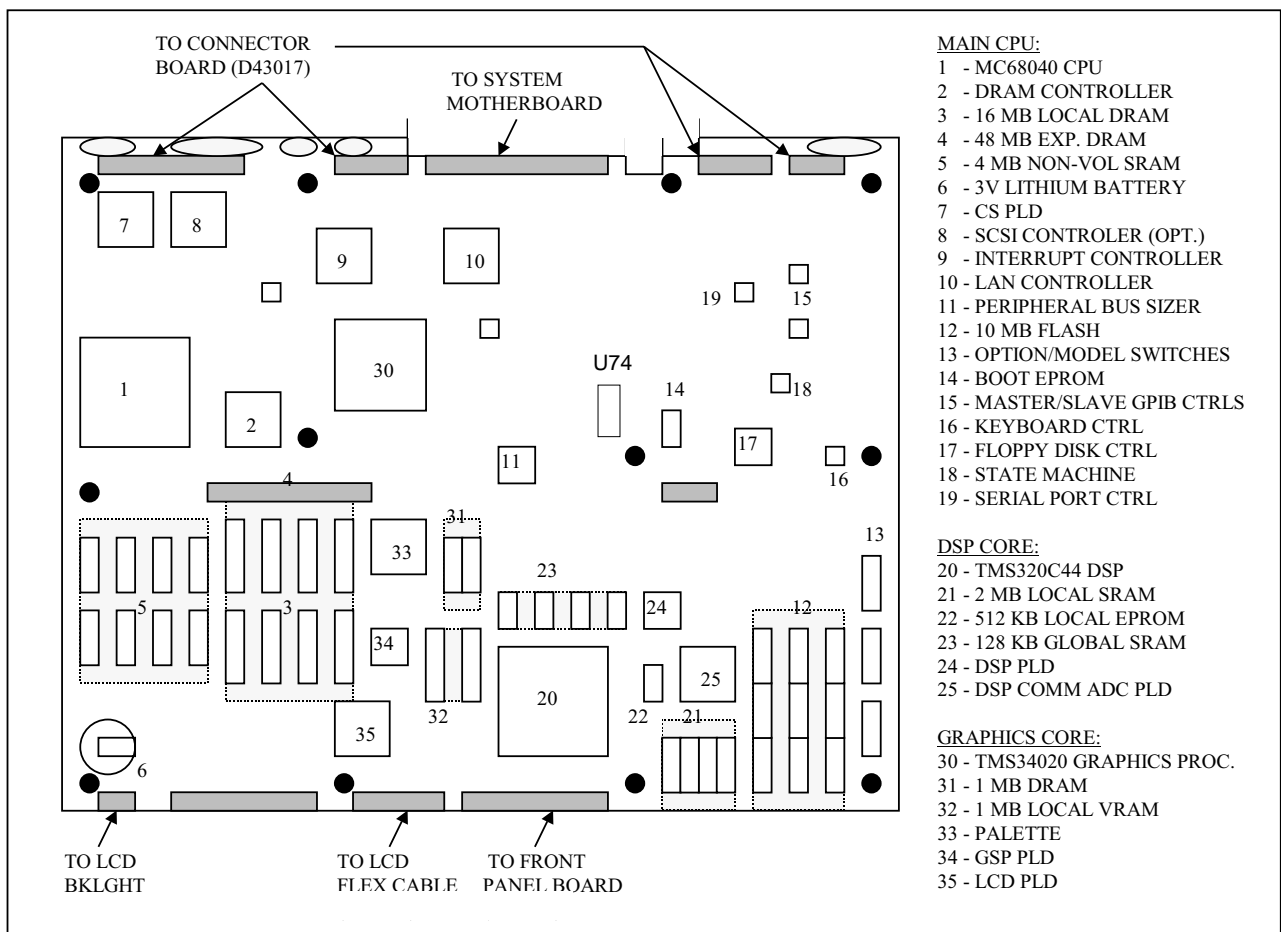

Figure 6-2. CPU Assembly Part Locator
2. Verify that the battery mounted on U74 is installed properly. Refer to Figure 6-2 on the previous page for a part location diagram.